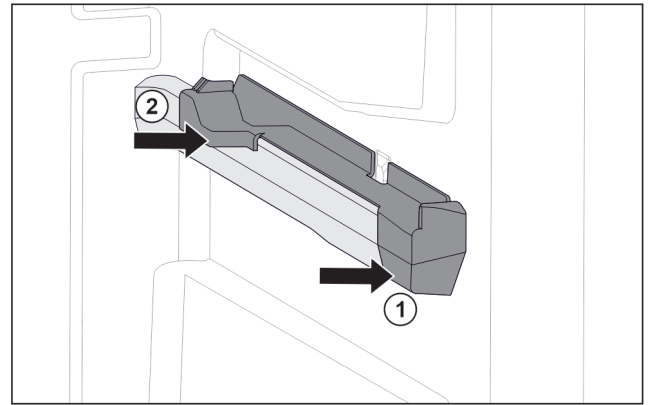

Fig. 103 Attachment on the right moulded rib
- ▶ Position attachment on moulded rib at the front. Fig. 103 (1)
- ▶ Press on attachment at the back. Fig. 103 (2)